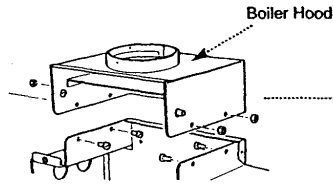

Fig. 8
2. Remove the boiler hood from its packing on top of the boiler. The hood may be fitted now or when the boiler is in situ. Use the four nuts and set screws provided (Fig. 8).